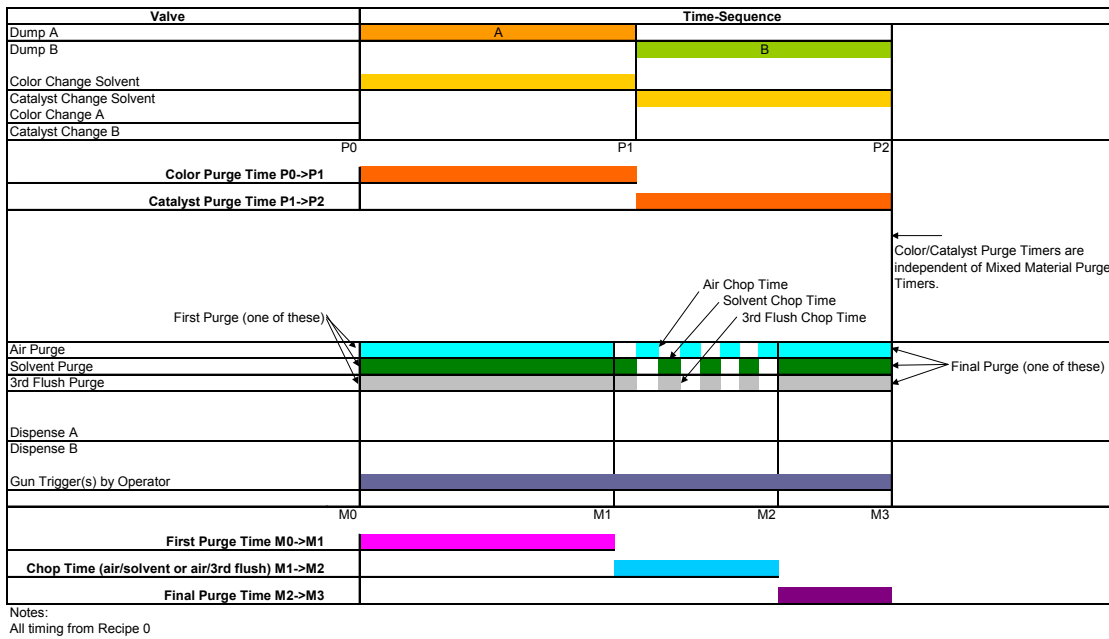
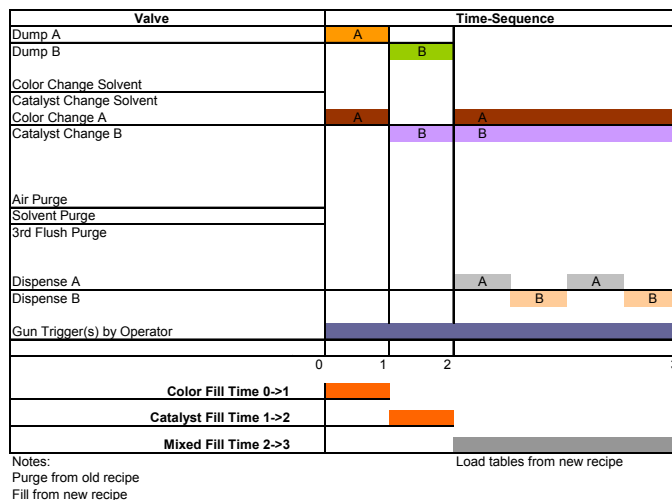

FIG. 78: Color Change Chart 10
FIG. 79: Color Change Chart 11
* FIG. 78 and FIG. 79 show both color and catalyst change. If the color or catalyst is not changing, disregard that portion of the chart.